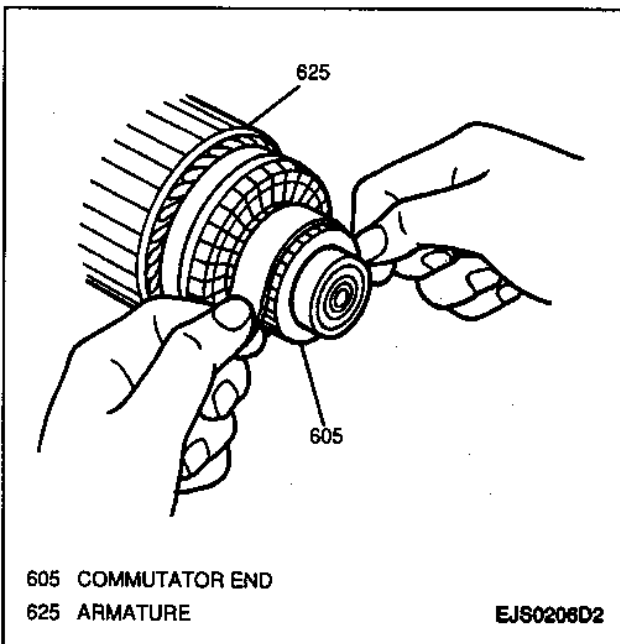

Figure 20—Cleaning Commutator
### Figures 20 through 35
- Remove dirt and burn marks from the commutator end of the armature by sanding with a #300 or #400 grit sandpaper (Figure 20). Wipe parts with a clean shop cloth.